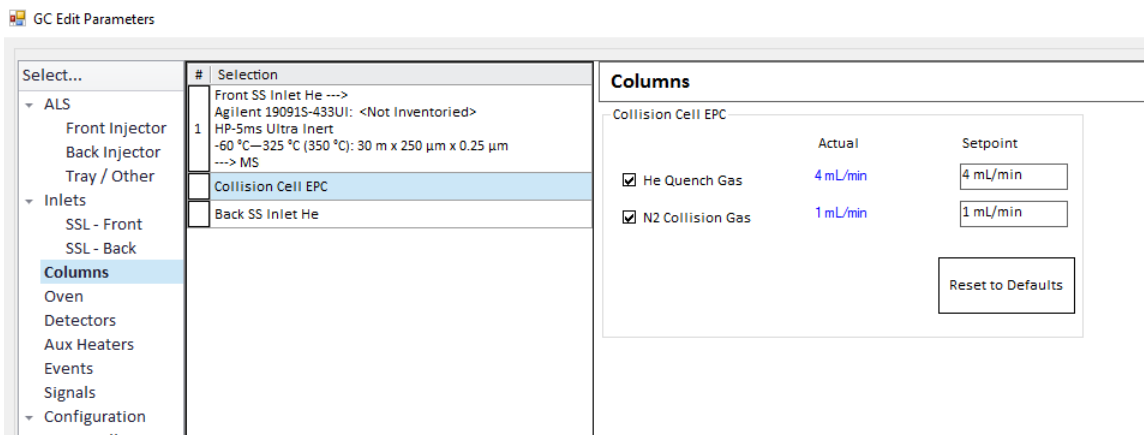

Figure 13. Setting the collision cell gas flow rate
- 2 From the Navigation pane, click **Columns** to display control parameter entry screen for column and Aux flow modules. (See **Figure 13** Click **Collision Cell PC** in the **Selection** list.